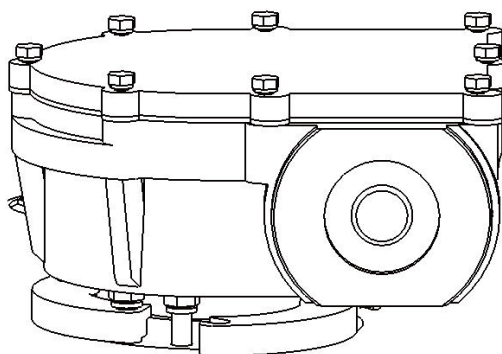

Figure 40 Loosen gearbox pressing ring
- 2) Loosen the pressing ring of the gear box and slightly pull out one end of the ring (6 pieces of M8 bolts, 13mm wrench) (Figure 40).